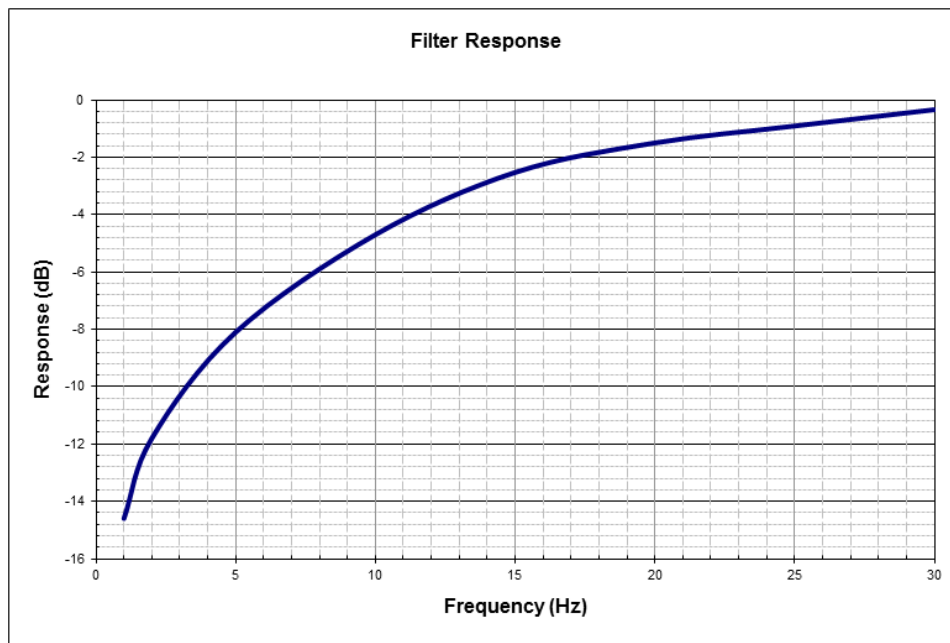

Figure 6 - Relative Filter Response
Filter: This function is either “on” or “off”. The LED is illuminated when the high-pass (HP) filter is “on.” This function is used to reduce low frequency rumble or resonance from the turntable, or other undesirable very low frequency content from the source. When selected, the filter response shown in **Figure 6** is added to the overall response for the selected gain setting and playback equalization curve.